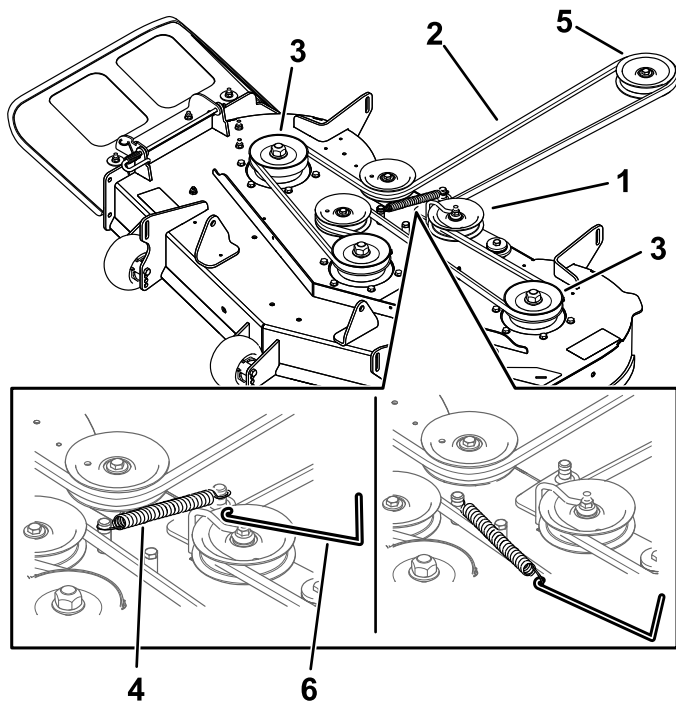

Figure 52
- 6. Using a spring-removal tool (Toro Part No. 92-5771), remove the idler spring from the deck hook to remove tension on the idler pulley and roll the belt off the pulleys (Figure 52).
- 7. Route the new belt around the engine pulley and mower pulleys (Figure 52).
- 8. Using a spring-removal tool (Toro Part No. 92-5771), install the idler spring over the deck hook and place tension on the idler pulley and the mower belt (Figure 52).